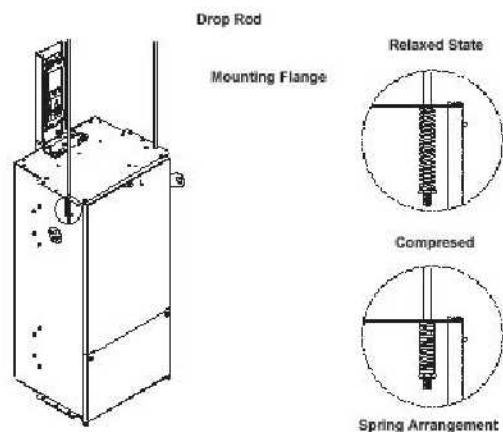

Figure 30. Typical Vertical Support Arrangement
11.1.6 For riser applications, flexible conduit should be used for load connections. 400A and larger bus plugs require qty one (1) of Siemens spring kit SXSK. The spring should be compressed approx. 1.5" from the relaxed state, see Figure 30. (If ordering an alternate spring, use the following: Spring Rate= 35 lb/in, Free Length=4-5 in., ID=.56 min.).